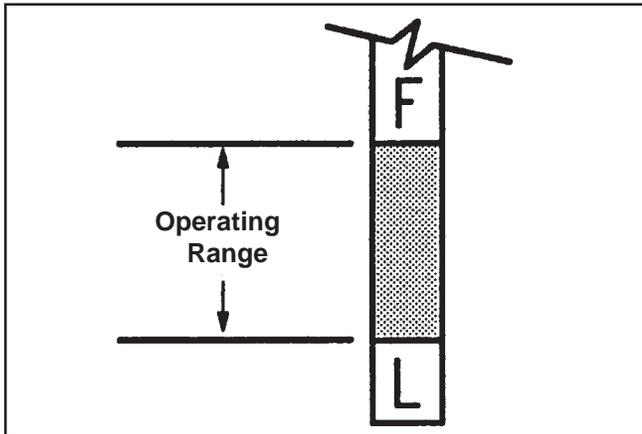

Figure 10. Oil Level Marks on Dipstick.
- Remove the dipstick and check the oil level. The oil level should be up to, but not over, the F mark on the dipstick. See Figure 10.